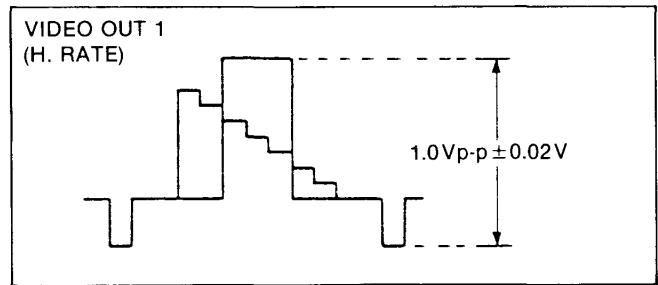

Figure E26
4. Adjust VR3004 for 1.0 ± 0.02Vp-p as shown in Figure E26.